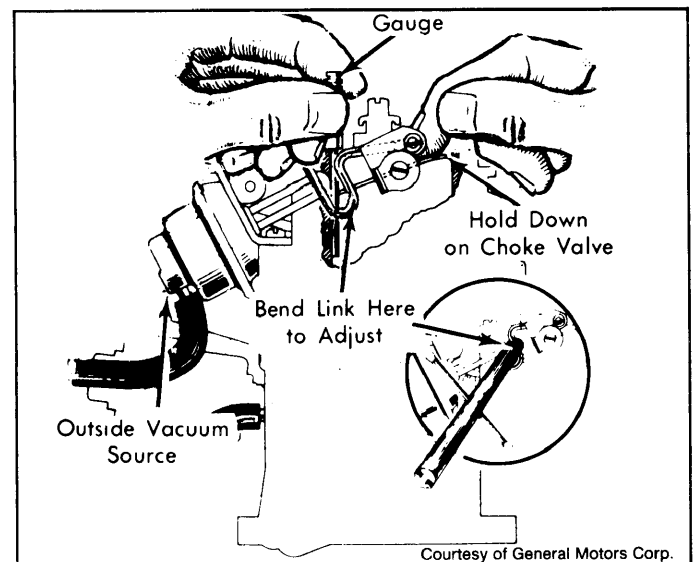

Fig. 6: Adjusting Vacuum Break
- 1) Place cam follower on HIGHEST step of fast idle cam. Use outside vacuum source and apply enough vacuum to seat diaphragm. See Fig. 6.